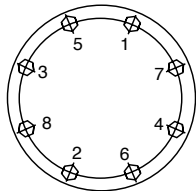

Figure 1
- Tighten all flange bolts in a criss-cross pattern (see Figure 1) to the maximum torque recommended for the metal mating flanges. The rubber flange can not be over-torqued. It is